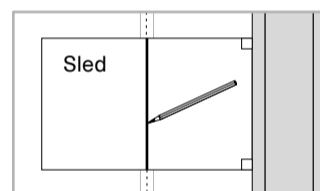

Fig 1d - Connect front & back edge marks
- 1.4 Draw a straight line connecting these two marks [Fig 1d].